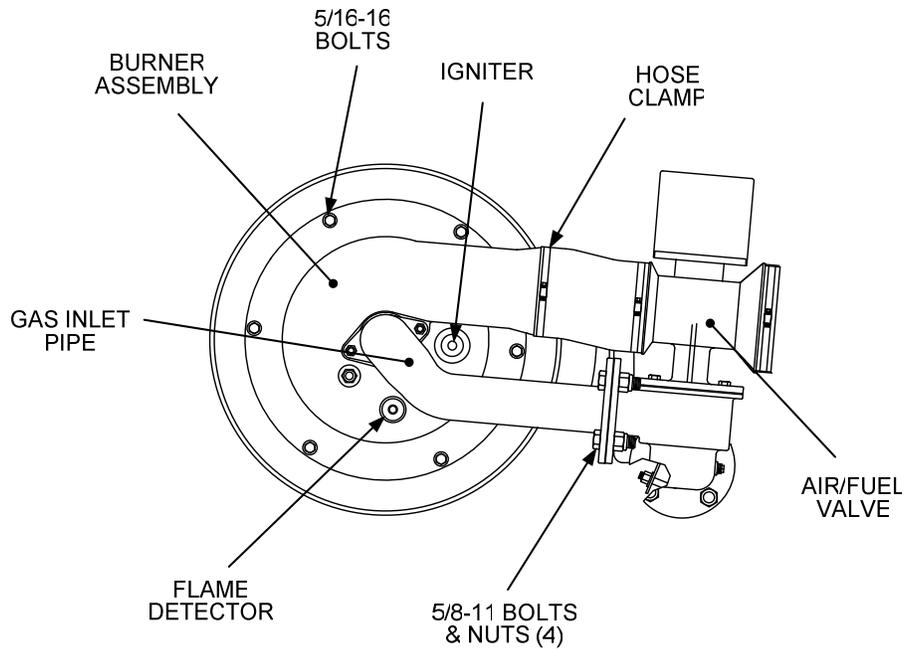

Figure 5. Benchmark 2.0 Burner Assembly Removal
2. Disconnect the lead wire from the flame detector shown in Figure 5.
4. Disconnect the combustion air hose from the burner by loosening the hose clamp shown in Figure 5.
5. Remove the four (4) 5/8-11 nuts and bolts from the gas outlet side of the air/fuel valve (Figure 5). DO NOT remove the gas inlet pipe.
6. Remove the six (6) 5/16-16 bolts from the burner flange.
It is imperative that the gas inlet pipe on the burner assembly (Figure 5) be properly aligned with the four bolt holes on the gas outlet flange of the air/fuel valve. Failure to observe this precaution may cause physical damage to the gas inlet pipe resulting in cracks and/or gas leaks.
16. Reconnect and secure the combustion air hose to the burner assembly by tightening the hose clamp (Figure 5).